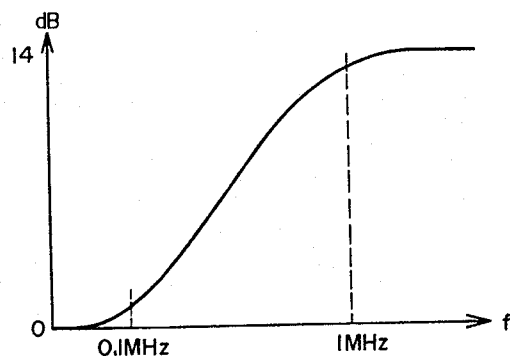

Fig. 57
After the non-linear emphasis, the signal passes Clamp, Pre-emphasis and Clip and enters FM modulator. The clamp is to make the carrier frequency of SYNC TIP constant. Then, the ordinary pre-emphasis is applied. This curve is stipulated by the VHS specification and is shown in Fig. 57. This is determined by C and R connected to Pin ⑪ of AN6310.